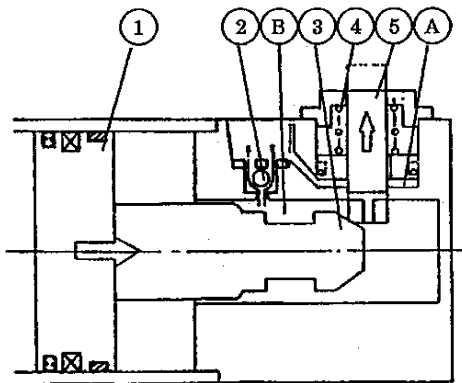

Fig. 1
- (a) Stopper piston⑤ is pushed up by the slant of sleeve tip③ as the piston① of cylinder approaches to its stroke end. (Fig. 1)